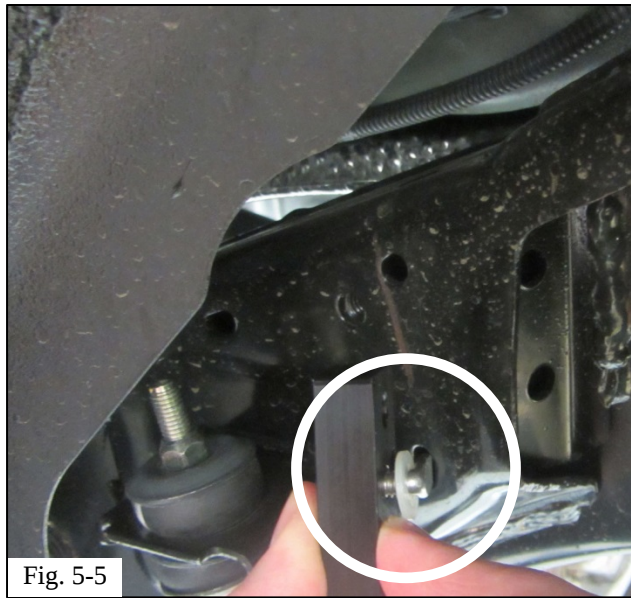

Fig. 5-5
- (e) With the reservoir bracket adapter hanging upside down, slide the right angle weld stud into the slot located in Step 5(d) (Fig. 5-5).